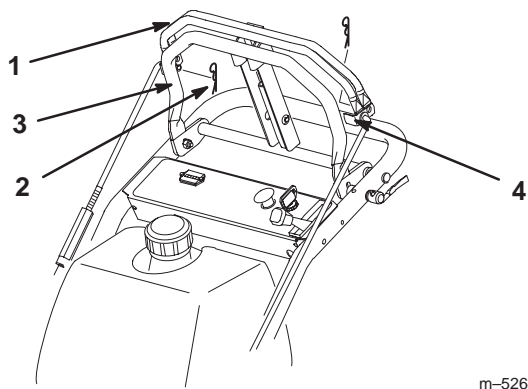

Figure 4
- Remove hairpin cotter and rod from upper control bars (Fig. 4).
- Press and hold upper control bars against reference bar, so stop hits (Fig. 4).
6. Connect rod to upper control bars with previously removed hairpin cotter (Fig. 4).
6. Connect rod to upper control bars with previously removed hairpin cotter, tighten wing nut and turnbuckle (Fig. 4).